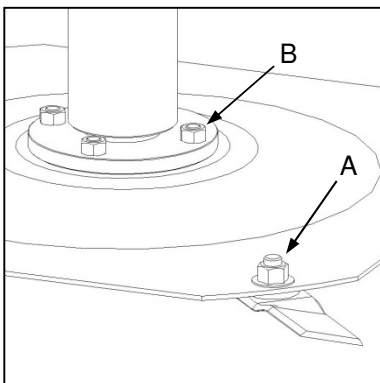
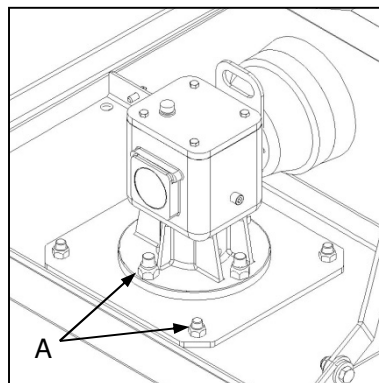
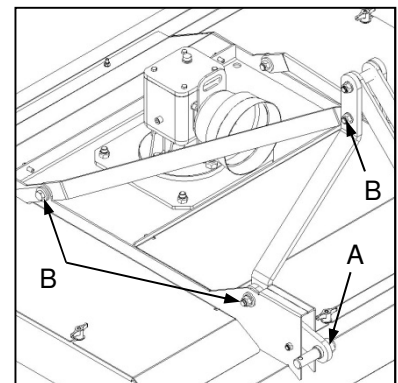

Fig. 1
Fig. 2 (F210 TurfPro)
Fig. 3 (F210 TurfPro)
- ✓ Check all fasteners for tightness. This includes special attention to safety-critical fasteners such as blade bolts and nuts (Fig. 1-A), cutting gear mounting bolts (Fig. 1-B), gearbox mounting bolts (Fig. 2-A), hitch points (Fig. 3-A) and mast retaining bolts (Fig. 3-B).
- ✓ Verseker dat alle hegstukke vas is. Dit sluit in spesiale aandag aan veiligheidskritieke hegstukke soos lemboute en -moere (Fig. 1-A), snymeganisme monterboute (Fig. 1-B), ratkas monterboute (Fig. 2-A), haakpunte (Fig. 3-A) en masklemboute (Fig. 3-B).